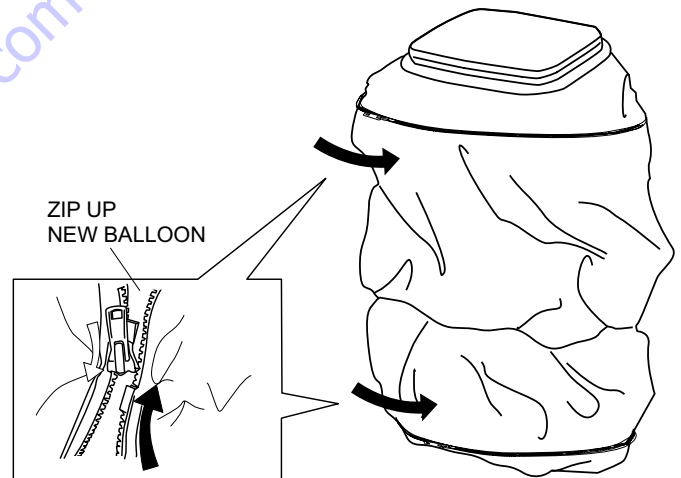

Figure 23. Zipping Up New Balloon
4. Zip up the top and bottom of the new balloon. See Figure 23.